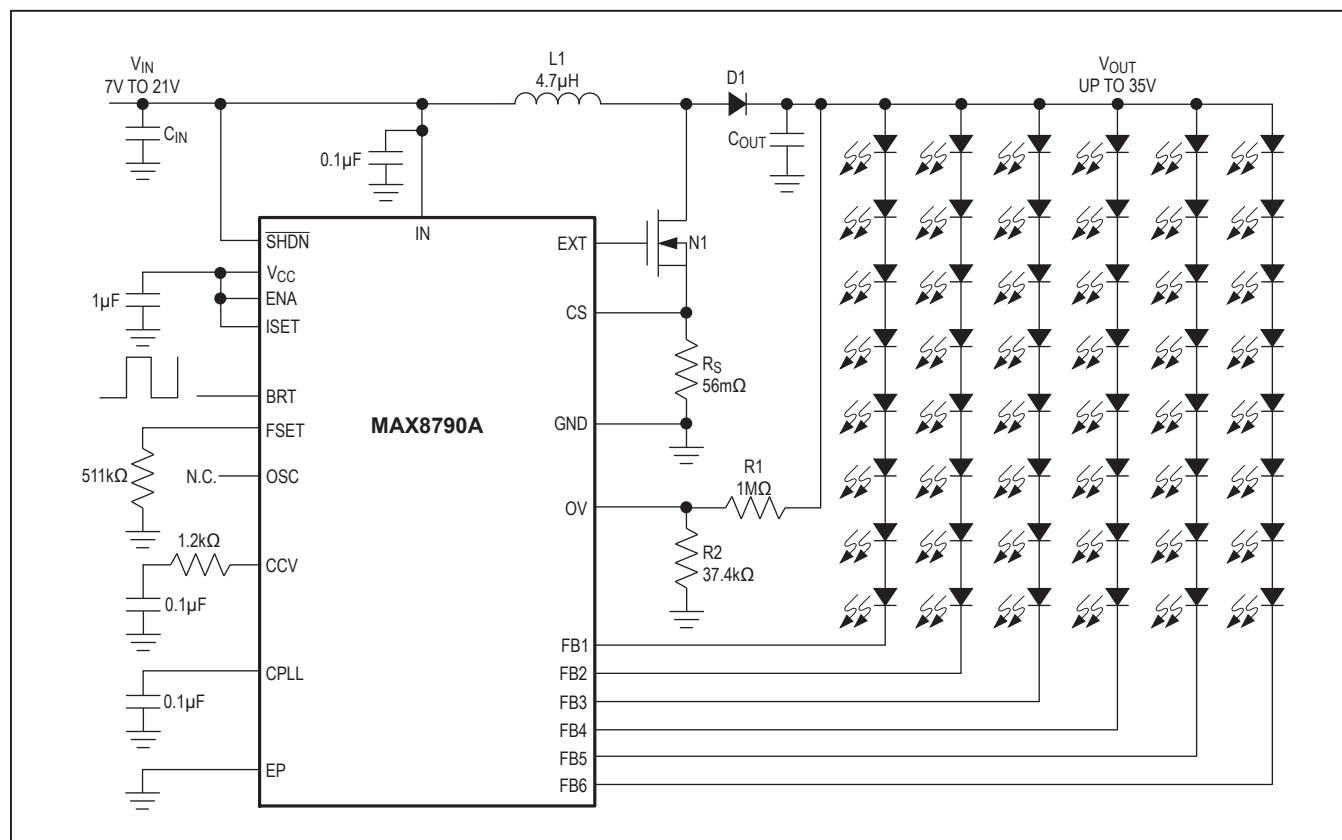

Figure 1. Typical Operating Circuit
Electrical Characteristics (continued)(Circuit of Figure 1. $V_{IN} = 12V$, $V_{SHDN} = V_{IN}$, $CCV = 0.1\mu F$, $T_A = -40^{\circ}C$ to $+85^{\circ}C$, unless otherwise noted.) (Note 2)
To protect the step-up converter when the load is open, or the output voltage becomes excessive for any reason, the MAX8790A features a dedicated overvoltage feedback input (OV). The OV pin is connected to the center tap of a resistive voltage-divider from the high-voltage output (see Figure 1). When the MAX8790A is powered up, if none of the LED strings on FB1–FB6 are connected to the step-up converter output, the step-up converter regulates the output voltage to $V_{OUT} = 1.23V(1 + R1 / R2)$. When V_{OV} exceeds 1.23V, a comparator turns off N1. The step-up converter switch is reenabled after the output voltage drops below the protection threshold.